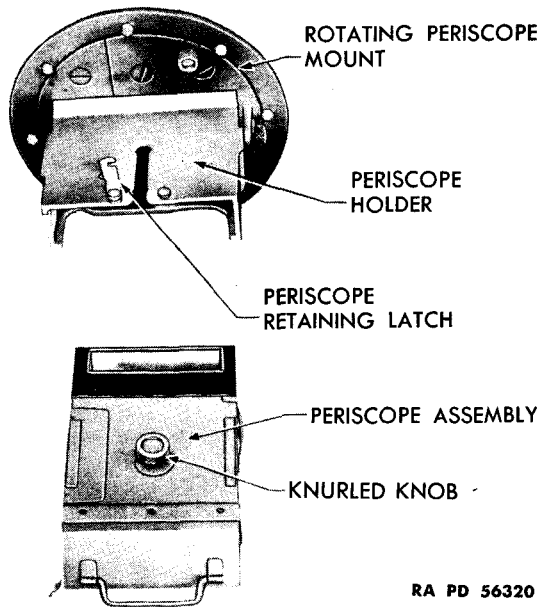

Figure 9 — Periscope and Mounting
(1) All periscopes have a traverse of 360 degrees, an elevation of 26 degrees, and a depression of 27 degrees from the vertical.
(2) Periscopes are raised to the using position or lowered for complete protection by loosening the knurled knob, and moving the periscope to the desired position.
(3) Periscope units are replaced complete, in the event of damage, by turning back the latch (fig. 9), loosening the knurled knob, removing the damaged unit, and installing a new one.